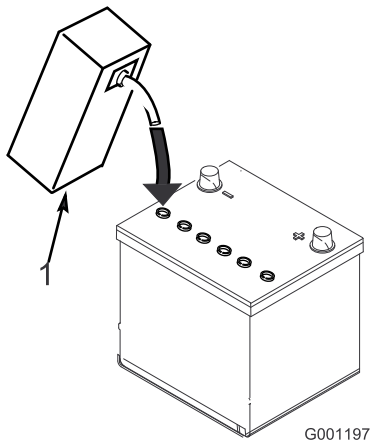

Figure 10
3. Carefully fill each cell with electrolyte until the plates are covered with about 6 mm (1/4 inch) of fluid (Figure 10).
**Note:** Refill as necessary to bring the electrolyte to within about 6 mm (1/4 inch) of the bottom of the fill well (Figure 10).